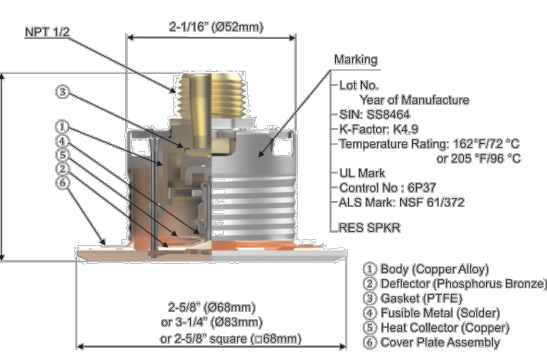

Figure 1: Model RC-RES K = 4.9
- Physical Characteristics:** Ref. Figures 1 and 1.1